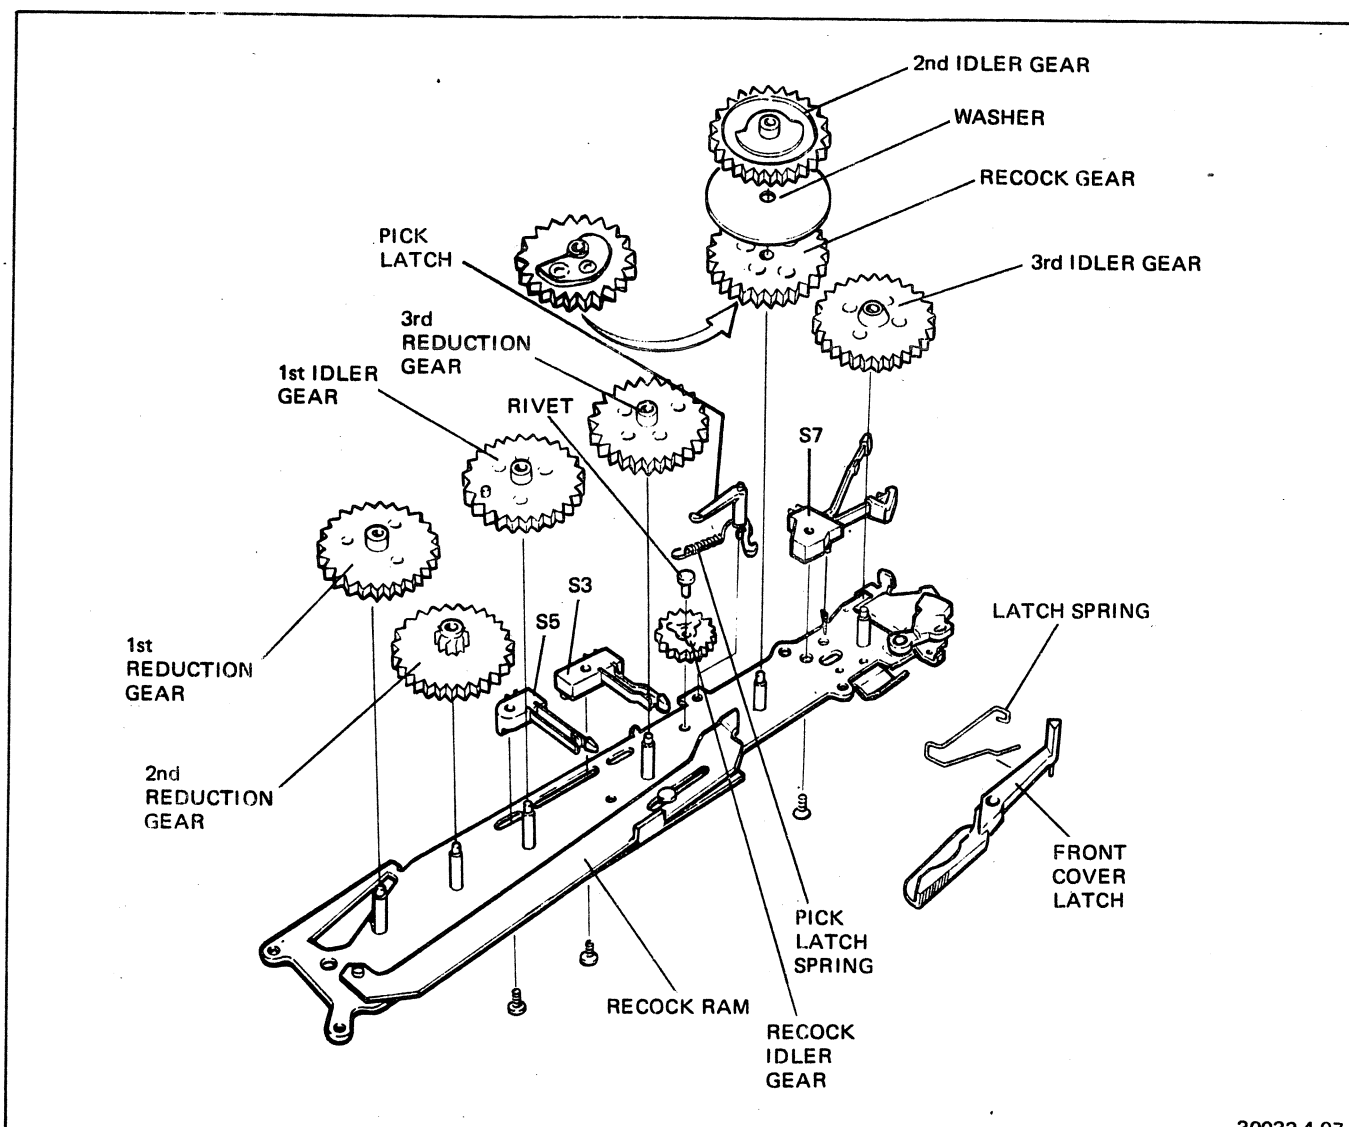

FIGURE 4-97 GEAR TRAIN, EXPLODED VIEW
5. Refer to Figure 4-97. Identify the recock gear. This component has a metal cam heat-staked to one side of the gear.
8. Identify the separating washer, Figure 4-97. Place the washer on post no. 2 over the recock gear.
9. Identify the second idler gear, Figure 4-97. This gear has an integrally molded cam on one side. Place this gear, cam surface uppermost, on pin no. 2 over the washer.
11. Identify the 3rd idler gear (Figure 4-97). This gear has a beveled hub on one side.
13. Identify the 2nd reduction gear (Figure 4-97). This gear has three mold cavities equally spaced at 120 degrees on the side opposite the small-diameter spur gear.
15. On the outer plate (gear train assembly) locate the recock ram. See Figure 4-97. Swing the ram toward the edge of the timing fixture to make sure that the 2nd reduction gear bottoms correctly on the post.
18. Identify the first idler gear (Figure 4-97). This gear has a small stud near its outer diameter, and this stud operates the pick slide.
29. Being careful to see that the gears do not become disengaged, rotate the gears until the small stud (drive pin) on the first idler gear is centered between the two terminals of S5. See Figure 4-97.